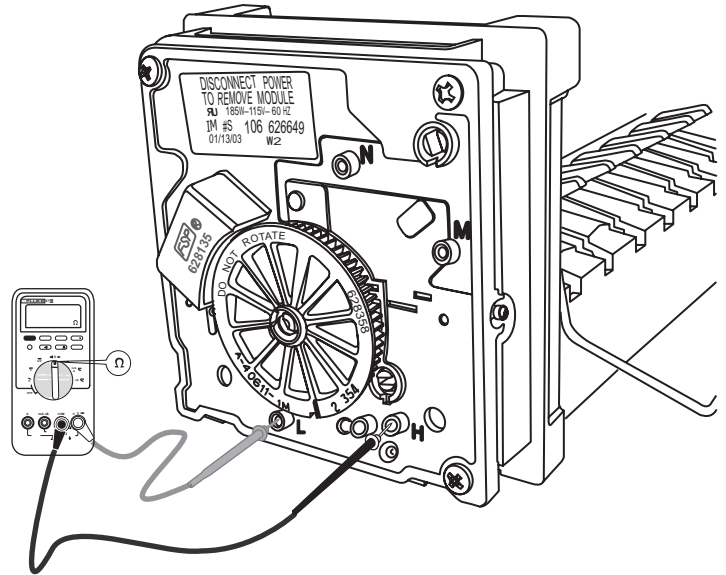

Figure 9-15. —Measuring mold heater resistance.
5. Set the multimeter to ohmmeter function, then insert one probe into point L and the other into point H as Figure 9-15 shows.